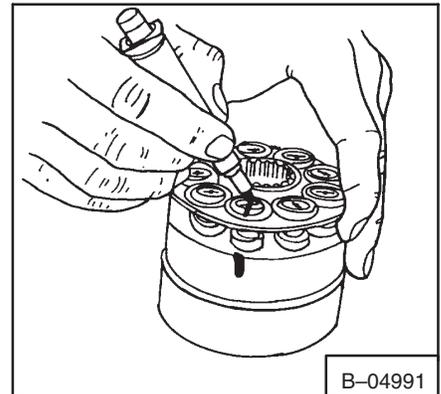

Fig. 3-104 Marking Rotating Group
12. Put a mark on one piston and on one cylinder bore (Fig. 3-104) and remove the pistons from the cylinder block.